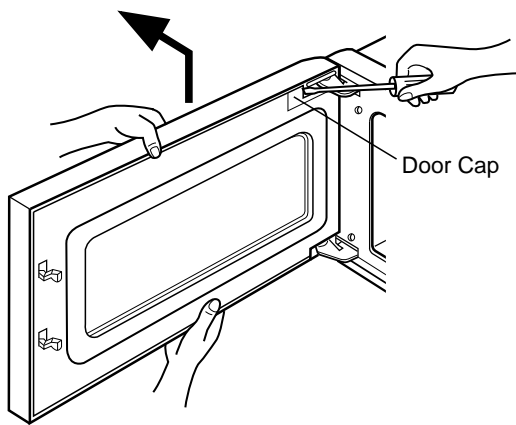

Figure 13
E. REMOVING DOOR (Figure 13)
- (1) Remove the vent grille by removing two screws securing it to the front of the out case.
- (2) Remove the door cap with small screw driver.
- (3) Lift up and push the door.